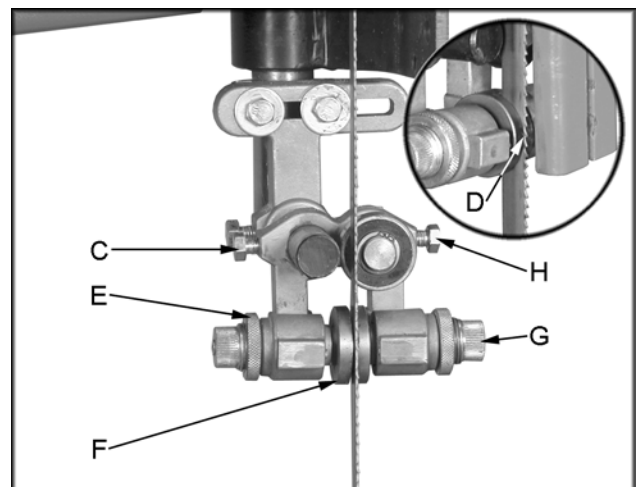

Figure 6
The blade guard has been removed in Figure 6 for photo purposes only.
3. Loosen bolt (C, Figure 6) and position the blade guide assembly so that the guides rest just behind the gullet of the blade teeth (D, Figure 6). Tighten the bolt.
4. Loosen the knurled jam nuts (E, Figure 6) that lock the guides (F, Figure 6) in place.
5. Turn the knurled knob (G, Figure 6) so that the guides rest lightly against the blade,
6. Adjust the blade support bearing so that it is 0.003" away from the back of the blade, about the thickness of a piece of paper. To make this adjustment loosen bolt (H, Figure 6) and slide the bearing and bearing post into position. Tighten the bolt.